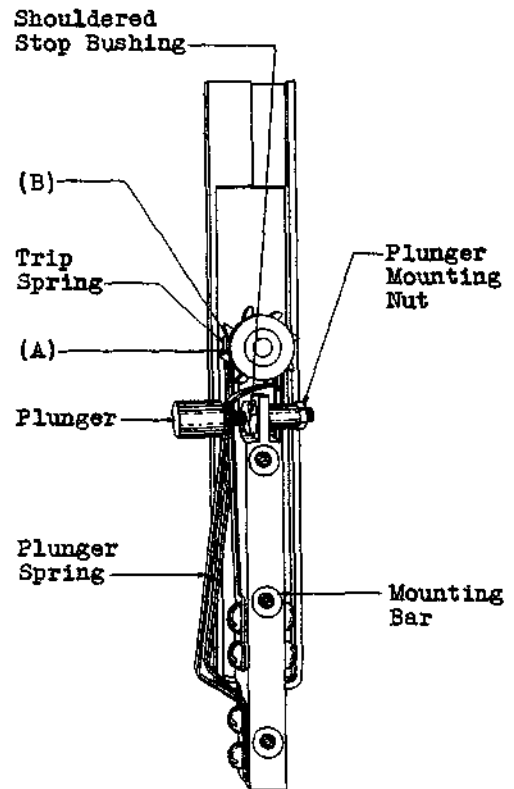

Fig. 5
(a) Fig. 5 (A) - With the plunger fully depressed and with the play of the ratchet wheel taken up in a clock-wise direction, the shouldered stop bushing shall be so positioned that the clearance between the tang of the trip spring and the straight face of a ratchet tooth is:
(b) Fig. 5 (B) - With the plunger fully depressed, there shall be no tendency for the tangs of the trip springs to ride on the next ratchet tooth in any position of the ratchet wheel. Gauge by eye.
M-1 Before making any adjustments on the plunger spring that would change its shape, check the general profile of the spring against the standard shown in Fig. 5 and, if necessary, adjust the spring with the long nose pliers.